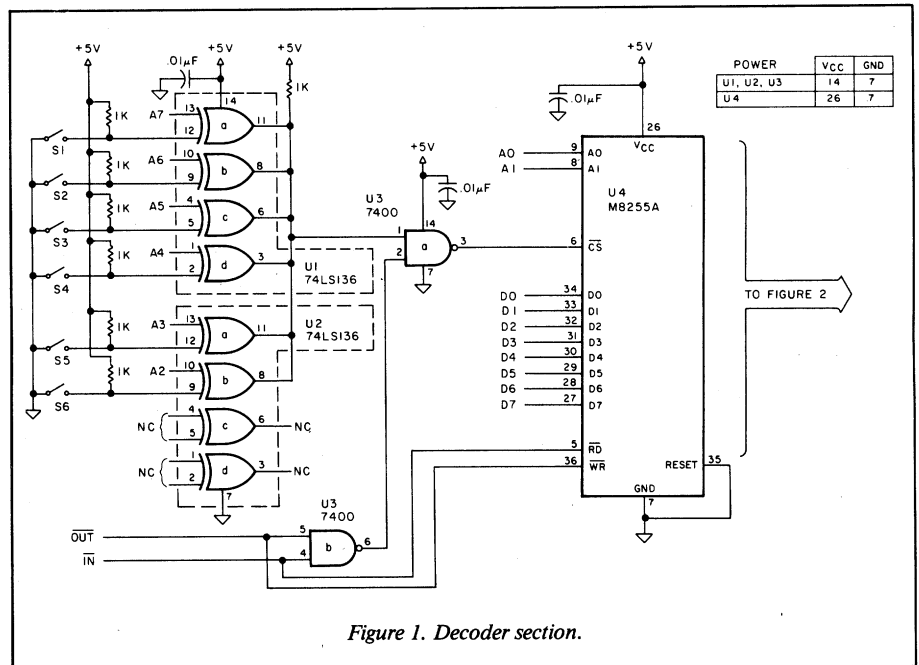

Figure 1. Decoder section.
The port decoding section shown in Fig. 1 consists of U1, U2, and two gates of U3. U1 and U2 are two-input, exclusive OR gates that make up the main port decoding section. Switches S1-S6 consist of an 8-DIP-switch (dual in-line processor) package that plugs into a 16-pin integrated circuit (IC) socket with two switches left for future use. Use these switches to set or change the speech ports to the configuration you need, but keep them within the zero to 7F hexadecimal (hex) port limits set by Radio Shack.
I use four ports to operate the speech board via an 8255 programmable peripheral interface chip that controls the Votrax chip. For simplicity, Fig. 1 shows the port decoding signals that consist of everything to the left of the 8255 chip (U4). Figure 2 details the signals that control the SC-01 chip.
Address lines A2-A7 in Fig. 1 tie to U1 and U2 to decode the base port value. Address lines A0 and A1 tie directly to the 8255 to decode its four internal ports. U1 and U2 turn on and stay selected for a decoding range of four, while address lines A0 and A1 actually perform the internal selection of the four ports within the 8255 chip.